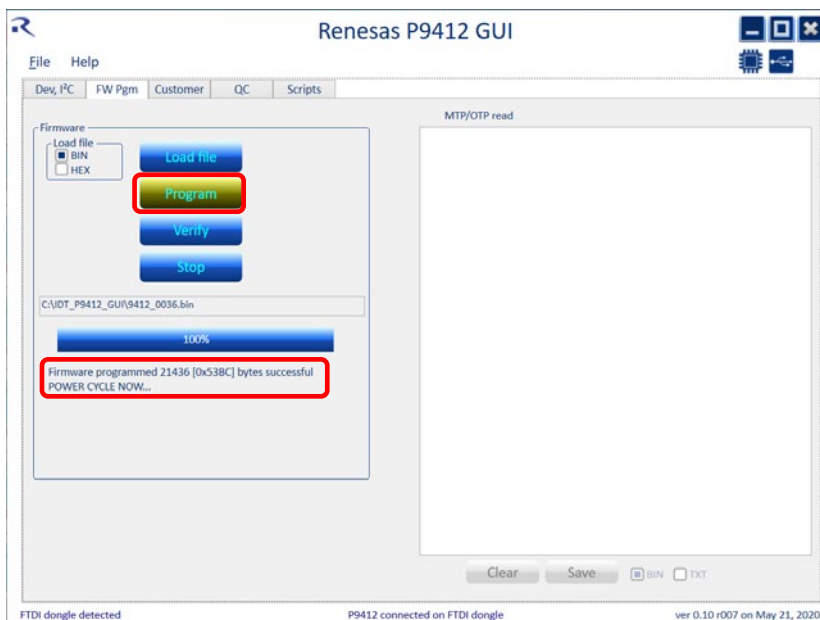

Figure 8. MTP Programming Successful
- After loading the file, press the “Program” button, the MTP will be programmed and the GUI will indicate if successful or if there were errors. See Figure 8, which indicates that the programming was successful. If there are any errors during programming, attempt to program again.